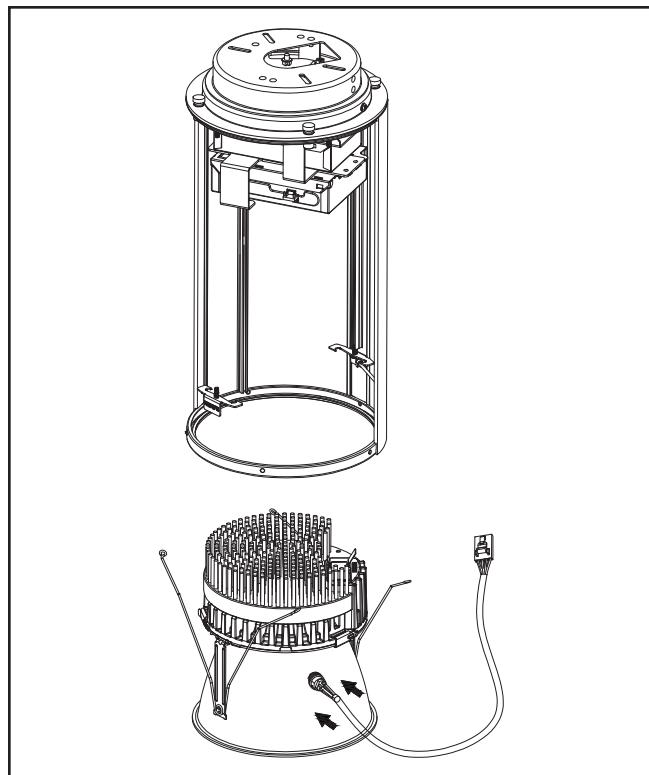

Figure 11
3. Tighten the test switch into trim. (Figure 11)